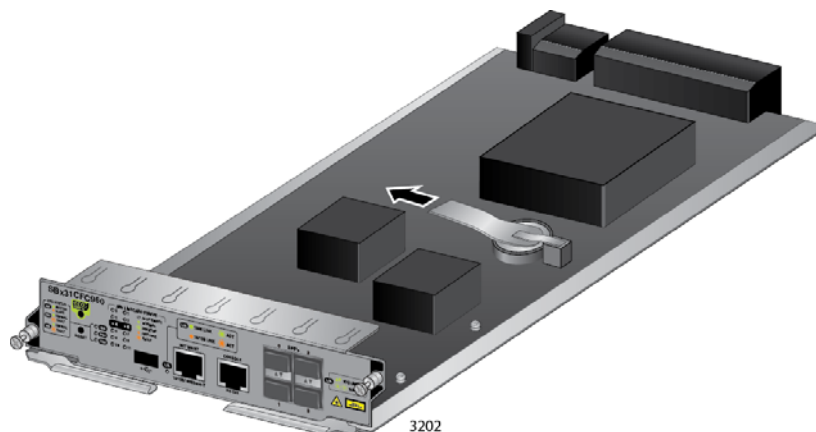

Figure 76. Removing the Battery Insulator
4. Remove the battery insulator tab on the controller card by sliding it out from between the battery and battery clip, as shown in Figure 76.